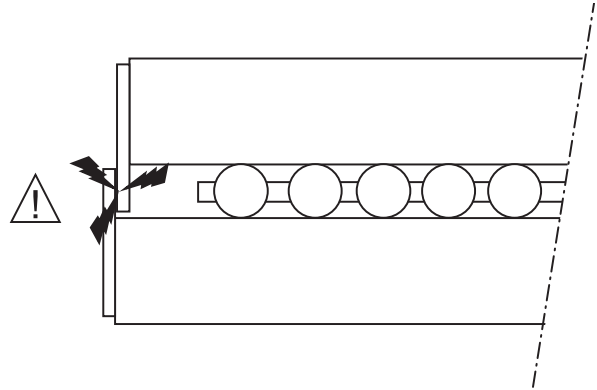

Figure 8. Incorrectly assembled end pieces or wipers
- △ End pieces or wipers must not be allowed to cross over (figure 8)